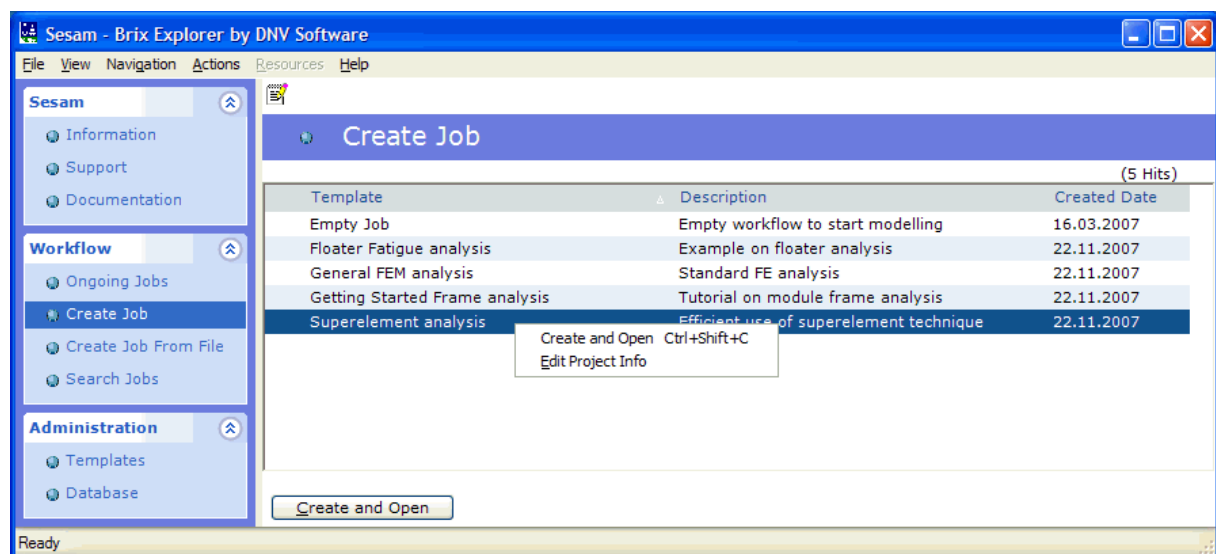

Figure 3.3 Create Job - Select template and press Create and Open or double-click
1. Select *Create Job* from the navigation bar in the left side of the window or the Navigation menu. This brings up the window shown in Figure 3.3.